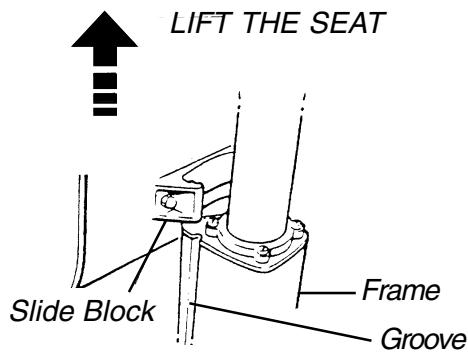

FIGURE 4 - REMOVING THE SEAT
5. Lift the seat up until the slide block comes free of the grooves on the Bath Lift frame to remove the seat from the frame (FIGURE 4).